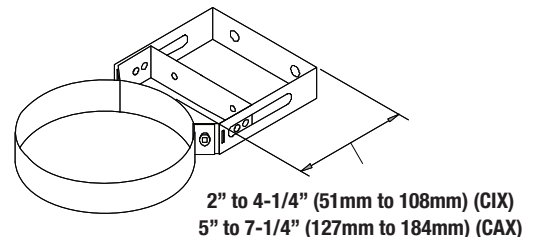

Figure 29 - Wall guide extension
3. The wall guide can be installed with a wall band extension for greater clearances up to 4-1/4" for model CIX and up to 7-1/4" for CAX. See **Figure 29** (wall guide extension).